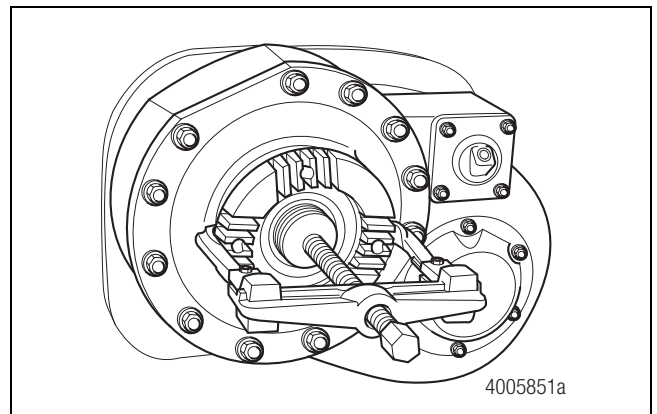

Figure 7.4
5. Use a puller to remove the companion flange. Figure 7.4.